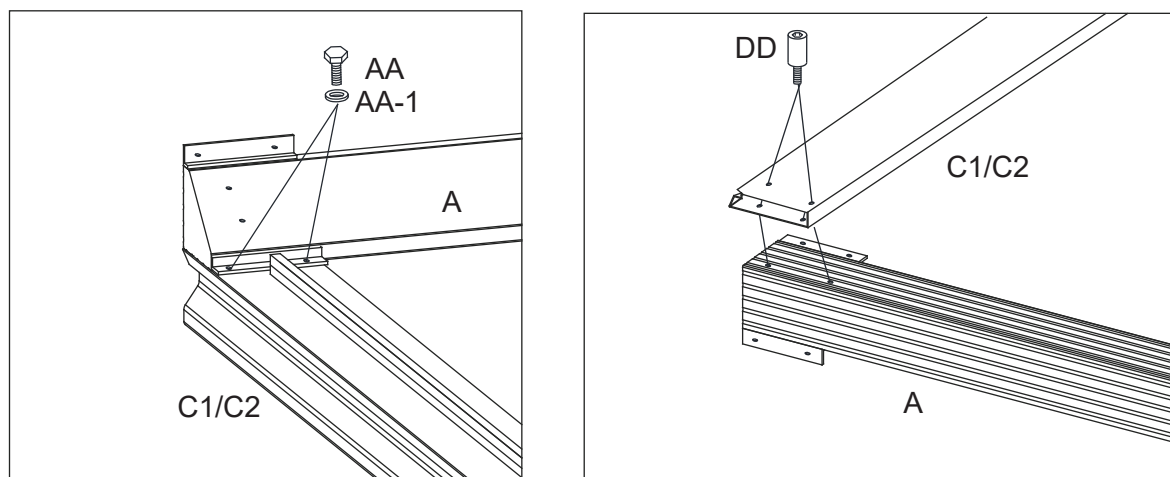

Figure 3-1
3.1: Attach Lintels (C1/C2) to end of Corner Posts (A) first with Bolts (AA) and Steel washer (AA-1) then with Bolts (DD). Tighten all Bolts. See Figure 3-1.